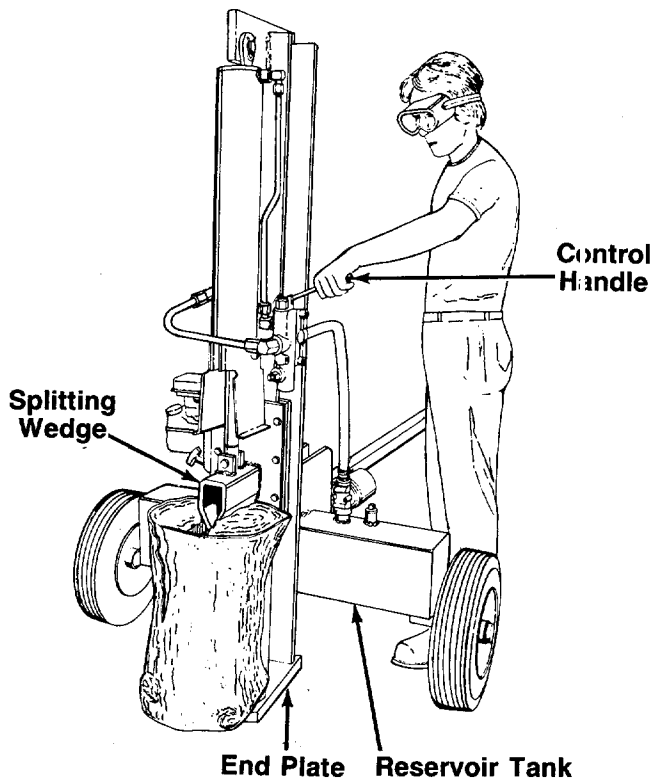

FIGURE 13.—Vertical Operation
Use the log splitter only on a level, hard surface. Never stand next to the splitting wedge when operating the log splitter. Always stand behind the reservoir tank. See figures 13 and 14. Never attempt to cut a log in half sideways. Always split the log lengthwise. Maximum length of log to be split is 24".
4. **Step behind the reservoir tank** (see figures 13 or 14) and push the control handle in forward position until the log is split.